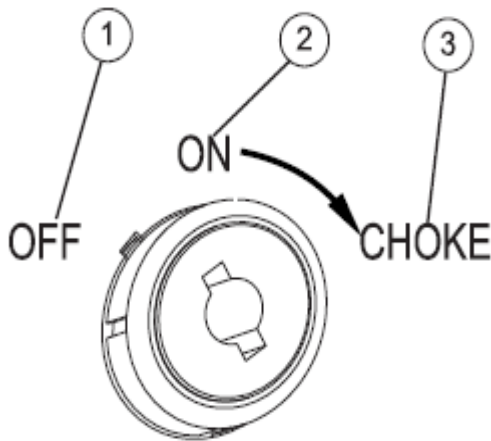

Figure-9 Off / On / Choke Positions
- * Turn the 3-in-1 switch the off/On/Choke switch to “CHOKE” (1)
- * **See Figure-9.** When engine starts, rotate OFF/ON/CHOKE dial to “ON” (2). Choke operation is reduced as OFF/ON/CHOKE dial is rotate towards “ON”.